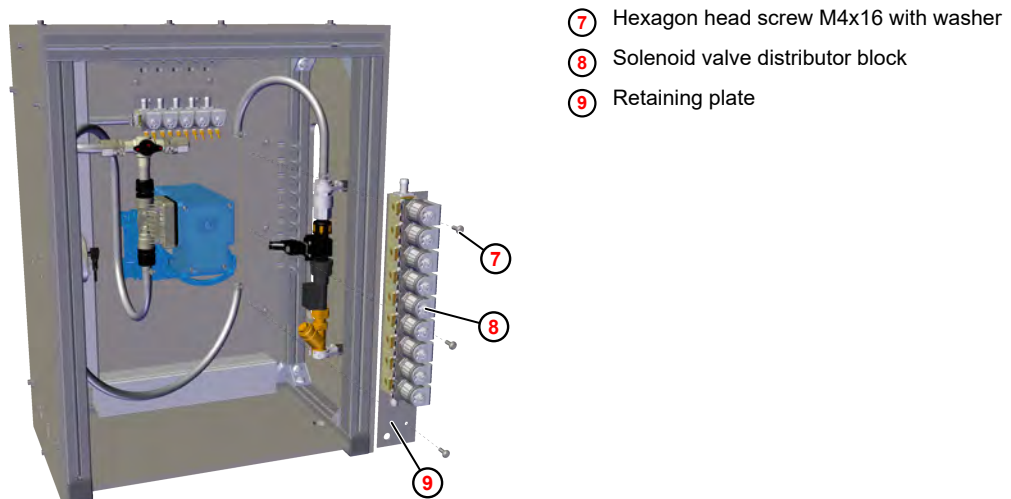

Fig. 14: Removing the solenoid valve distributor block
- 9.** ▶ Unlock the retaining clamp ⑪ on product valve P9 ⑩ and remove the grommet connection ⑫ .
- 10.** ▶ Install the extension block with three solenoid valves on product valve P9 using a coupling piece ⑬ .
- 11.** ▶ Mount the grommet connection ⑫ on product valve P12 ⑭ .
- 13.** ▶ Place the extended valve block on the support plate ( Fig. 14 , ⑨ ) and tighten it in place with five mounting nuts.